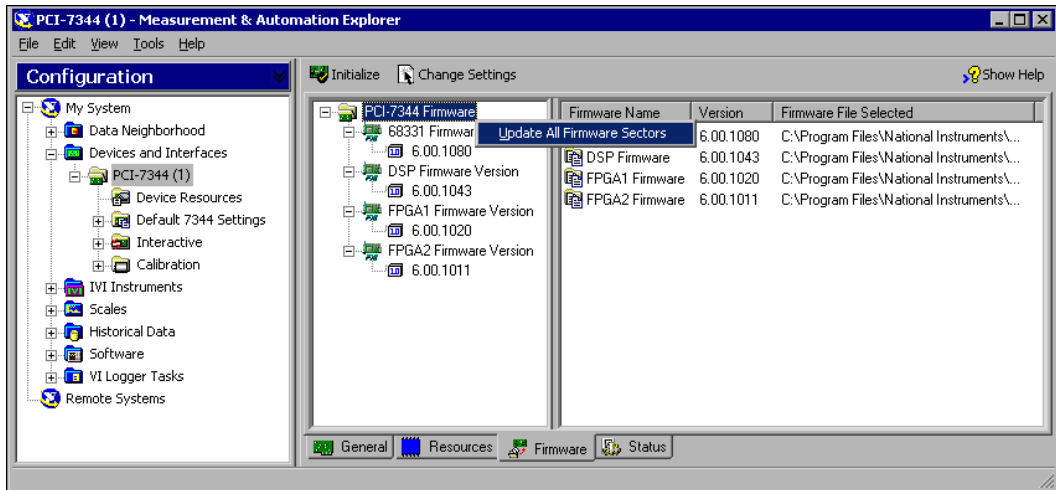

Figure 2. Updating Your Firmware
5. Right-click the folder icon at the top of the firmware tree and select **Update All Firmware Sectors**, as shown in Figure 2.